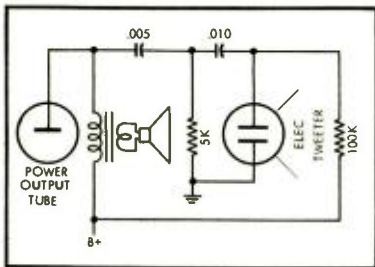
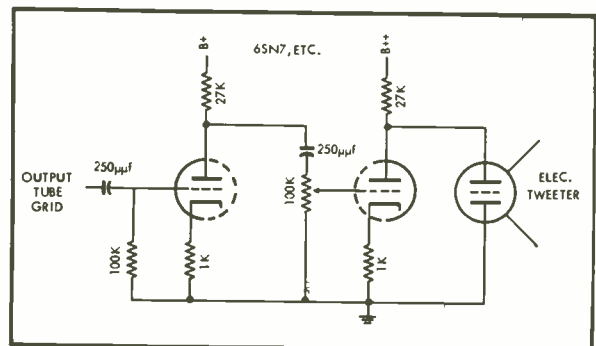

Fig. 1. Usual circuit recommended for connecting an electrostatic tweeter to the output stage of an amplifier.
Fig. 2. With a separate amplifier for driving the tweeter, distortion of output stage is avoided
Fig. 1 (left). Variation of IM and harmonic distortion with changes in input level. Fig. 2 (right). Variation of IM and harmonic distortion with changes in bias current.
The circuit recommended for use with this unit is shown in Fig. 1. In this arrangement the speaker signal is taken off the power amplifier plate, with RC coupling circuits inserted for application of polarization voltage and filtering out the lower frequencies. This arrangement is certainly simple, but it has certain advantages which might limit the effective use of the tweeter. First, it depends on the high-frequency response of the output transformer, which might drop off in cheaper units, keeping the highs away from the tweeter. Second, in this connection the tweeter is exposed to all the high-frequency distortion products developed in the power output stage. If the original speaker did not reproduce these sounds and they are then brought
With the cost of a tube and a few extra components, the above deficiencies can be remedied by use of the circuit shown in Fig. 2. This is essentially a separate output channel for the tweeter, an idea similar to the multichannel amplifiers which often appear in the literature. However, due to the liberal requirements of this application, the circuit can be considerably simpler than the usual multichannel design. For example, because of the relatively small proportion of signal power in the higher frequencies and the consequent small amount of power that must be fed to the tweeter, voltage amplifiers are quite adequate. The circuit of Fig. 2 uses a 6SN7 or similar dual medium-mu triode as a two-stage voltage amplifier taking a signal from the power-output-tube grid and feeding it to the tweeter.
Between the two amplifier stages is placed a similar RC circuit, with a pot used instead of a fixed resistor. This pot serves as a treble control to adjust the amount of signal going to the tweeter for the listener's taste. This is another advantage over the simple circuit of Fig. 1. The electrostatic tweeter is connected to the plate of the second tube, drawing both signal and polarizing voltage from this connection. The B+ return of this tube (shown as B++) should be connected to the highest-voltage well-filtered B+ point available in the set. However, the tweeter manufacturer's rating of 300 volts should not be exceeded. The B+ return of the first tube can go to any convenient source. Decoupling networks may be necessary in some cases to prevent interaction with other circuits in the set.
Consider the two pairs of resistances and capacitors shown in Fig. 1. At (A) the four elements are connected together in tandem. At (B) they are considered as separate two element networks. These two networks may be separated in fact by a stage of amplifiers to prevent interaction between their respective components.
In either case the over-all response of the combined networks will take the general form shown in Fig. 2. Each pair
Fig. 1. Equivalent interacting and non-interacting networks producing a high-frequency rolloff. Equivalence is discussed in the text, and the mathematical treatment given in the appendix.
Fig. 2. Illustrating the way interaction modifies response in the circuit of (A) in Fig. 1. The ultimate 12 db/octave rolloff is the same whether interaction occurs or not, but interaction increases attenuation in the vicinity of the frequency f_0 , where phase shift is 90 deg. and roll-off sides 6 db/octave.
We can assume that the connected arrangement of (A) in Fig. 1 can be represented by separate elements as at (B). In this case we can represent the one in terms of the other using real values throughout. If the two networks were not connected together in (A) C_1 would act with R_1 and C_2 would act with R_2 . But because of the interconnection C_1 acts with R_1 and also partially with R_2 which means that C_1 will not be shunting such a high value of resistance as R_1 by itself. At the other end C_2 is not feeding out of the simple resistor R_2 as a source but has an additional component of resistance source due to the presence of R_1 .
If R_2 is very large compared to R_1 the constant k , used in the formula given in the appendix, will be very small, signifying that there is little interaction between the rolloff effects of R_1 and C_1 and R_2 and C_2 . As shown in Fig. 2 the effect of interconnection is to spread the equivalent non-interacting components to frequencies further apart, to the ratio represented by m in the formula in the appendix and also in the figure.
The mean frequency remains unchanged in this case so, as shown in Fig. 2, the combined response of the over-all arrangement reaches the same ultimate rolloff whether an interconnection is made between R_1 and C_1 with R_2 and C_2 or not. The effect of the interconnection changes the response to a maximum degree at the mid-frequency, which is a mean between the rolloffs of the individ-
First we will consider the special case where the effective time constant of both arrangements is the same. In other words following the nomenclature of Fig. 2, $n=1$. This is shown at Fig. 4. Notice that we still have an interaction factor, similar to that used in the arrangement of Fig. 1, of $k=r/R$. For any particular case (value of n) the value of k will determine the attenuation at the mean frequency, which is still the frequency